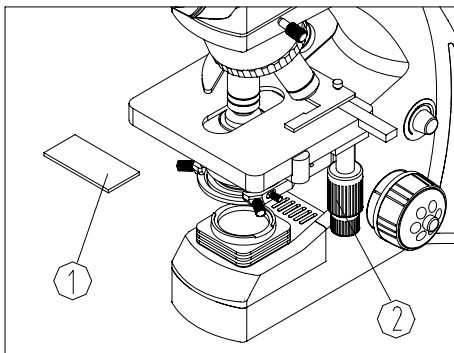

Fig.17
3.3.2 Placing the Specimen (Fig.17)